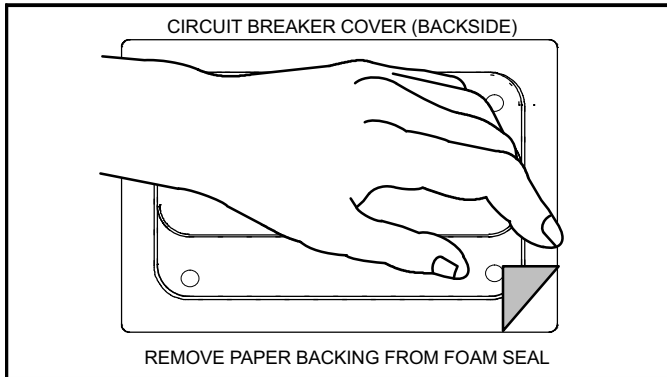

Figure 7. Remove Paper Backing
2. Remove paper backing from foam seal around perimeter of circuit breaker cover (figure 7).